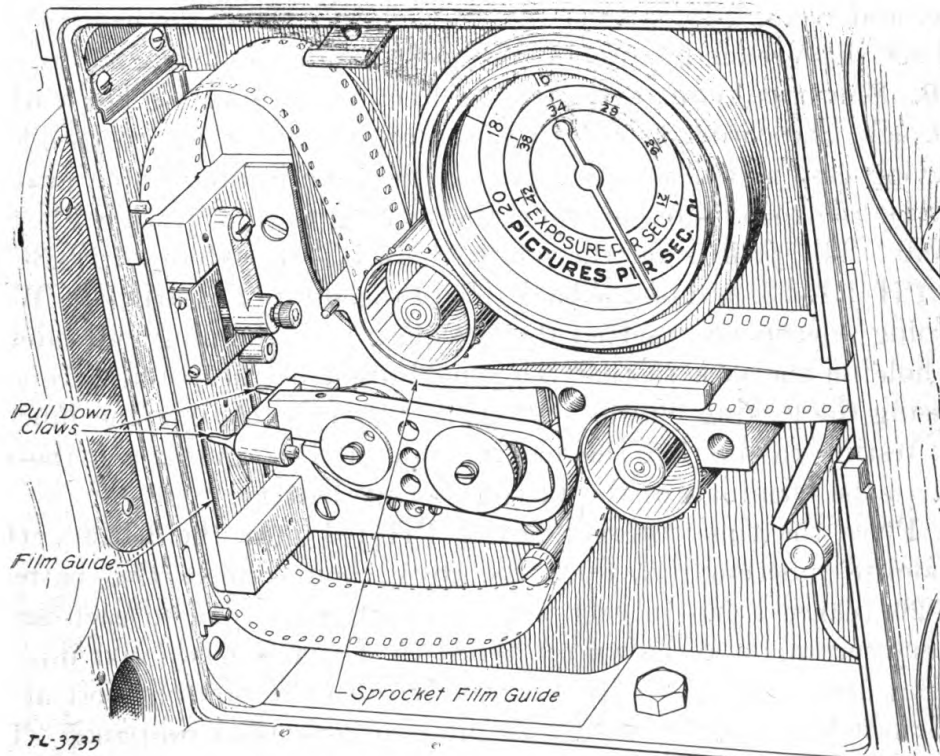

FIGURE 20.—Camera mechanism of theodolite PH-BD-33.
(4) Turn the motor flywheel on the back of the camera to make the pull down claws move up, over to the film, and down, moving the film down through the film gate twice, and check to see that the film does not rub on the camera case. If it rubs, shorten the loop that is rubbing and recheck for proper film movement. Pull out on the buckle trip pin, hold it momentarily, and release it; if the buckle trip lever has been moved by film jamming, the buckle trip spring will return it to the normal position when the pin is pulled out. Close the camera door and set the Veeder film footage counter to zero.
b. Theodolite PH-BD-33 (fig. 20).—(1) Open the camera door by releasing the catch at the top of the door and open the sprocket film guide by pressing down on the pin handle. Turn the camera hand drive wheel on the back of the camera until the pull down claws are at the farthest point from the film guides below the film gate.
(2) Take a loaded magazine in one hand, holding your thumb on the film where it enters the bottom slit, and with your other hand pull out enough film from the upper roll to thread the camera mechanism. Attach the loaded magazine to the camera by sliding the tongue on the magazine up into the groove of the magazine mount on the camera case, moving the lower part of the magazine up against the camera case, and lowering the magazine gently until it rests solidly in the mount.
(3) Thread the film through the film gate by pushing the hinged guides open and sliding the loop of film into place. Thread the film under the upper sprocket and over the lower sprocket as shown in figure 20 and close the sprocket film guide by pushing up on the pin handle. The white lines painted on the inside of the camera show the size of the film loops. The pin handle on the sprocket film guide fits into a hole on the camera door when the door is closed. The door cannot be closed until this guide is properly closed, and when the camera door is closed the guide cannot open. Put the belt on the take-up pulley on the back of the magazine.
(4) Turn the camera hand drive wheel on the back of the camera to make the pull-down claws move up, over to the film and down, moving the film down through the film gate twice to see that the film does not rub on the camera case. If it rubs, shorten the loop that is rub-